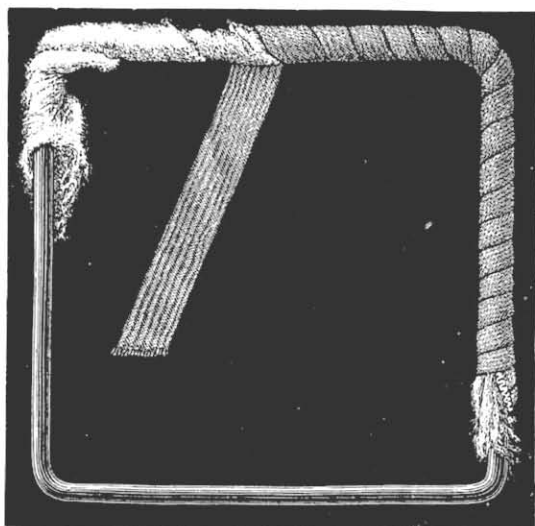

Fig. 10. Metal frame for embroidered net.
**Frames** (fig. 10). For embroidery on net the latter must be mounted in the ordinary way on an embroidery frame, if it be machine-made net; for the hand-made, some prefer a metal frame, particularly in the case of a small piece of work.
The wire should be covered first with wadding, fig. 10, and then with thin ribbon, wound tightly round it, specially at the corners so that it may be quite firm on the wire and not twist